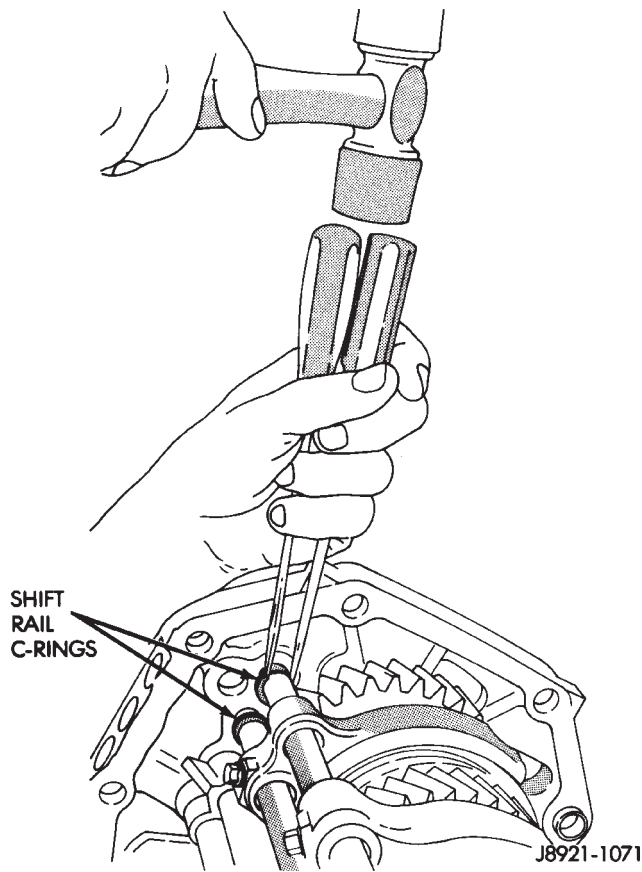

Fig. 42 Removing Shift Rail C-Rings
(2) Remove 1-2 and 3-4 shift rail C-rings with two screwdrivers of equal size and length (Fig. 42).